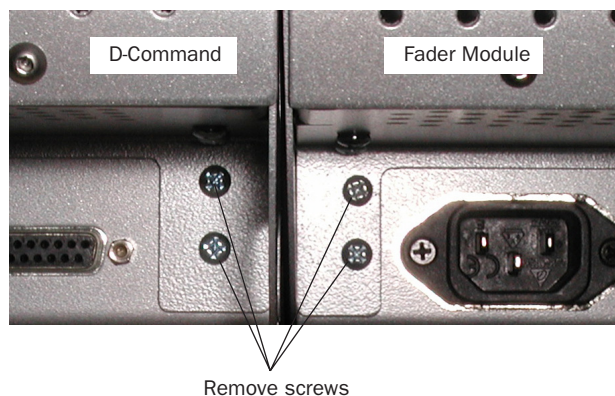

Figure 5. Rear view of D-Command and Fader Module
- 6 Remove the four Philips head screws indicated in Figure 5.